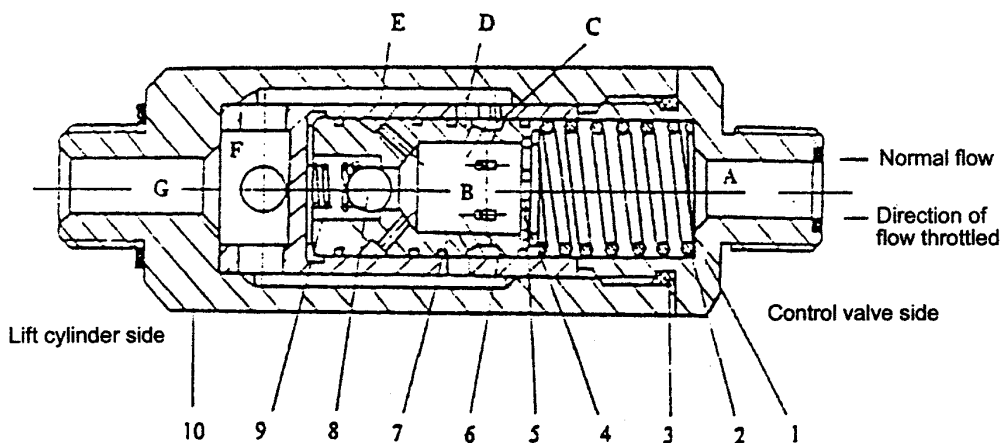

Fig7.7 Flow regulator valve
## 7.6 Flow regulator valve (Fig7.7)
The flow regulator valve, located in the lift cylinder circuit to limiting the descending speed of loaded forks, has the construction as shown in Fig7.7. When the lift spool valve is placed in the “lift” position, the oil from the control valve flows through the oil chambers A and B, oil holes C, D, E and F, and the chamber G to the lift cylinder without any regulation. When the lift spool valve is placed in the “down” position, the oil flows in the reverse position. When the oil passes the throttle plate (5) and a pressure difference overcomes the force of the spring (2) and moves the valve core (7) right, thus the oil flow being decreased by narrowing of the hole D and C, and reduces the oil flow passing through the throttle plate (5).